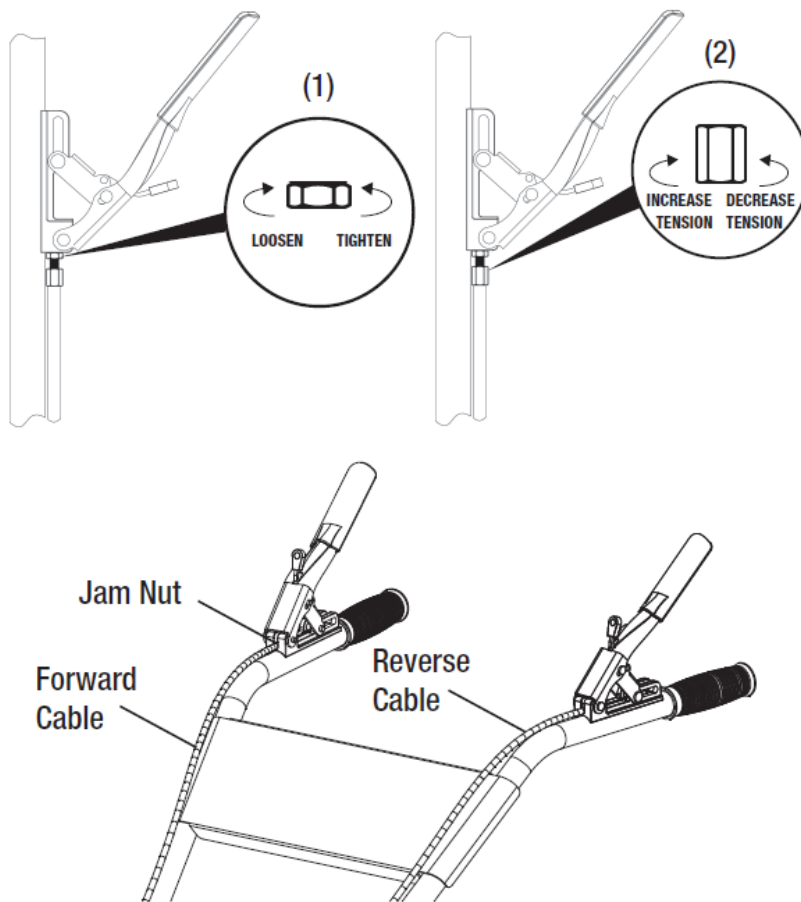

Figure 1-17
- This procedure can be repeated until conduit adjustment bolts are fully adjusted. If no more adjustment can be made, the wire may have to be replaced. See Figure 1-17